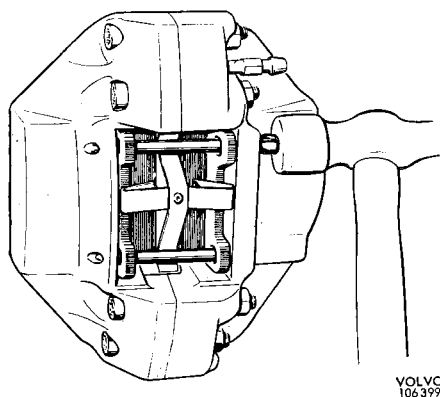

Fig. 5-18. Installing guide pin
8. Install new pads. Place one of the guide pins in position and tap it in with a hammer without help from a tool, see Fig. 5-18.